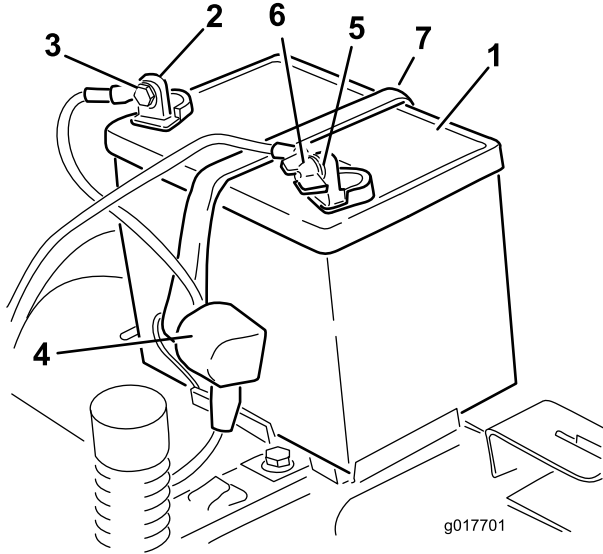

Figure 40
4. Disconnect the negative (black) ground cable from the battery post (Figure 40). Retain all fasteners.
- Slide the rubber cover up the positive (red) cable. Disconnect the positive (red) cable from the battery post (Figure 40). Retain all fasteners.
- Remove the battery hold-down (Figure 40) and lift the battery from the battery tray.
- Position the battery in the tray (Figure 40).
- Secure the battery with the hold-down (Figure 40).